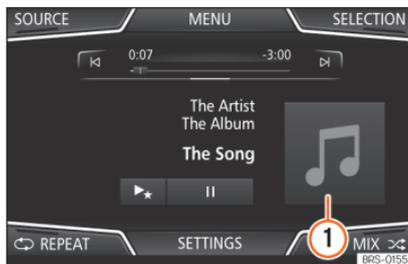
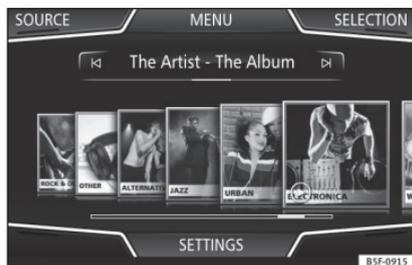

Fig. 171 MEDIA main menu.
Fig. 172 Selection by cover.
Clicking on the current cover »» Fig. 171 ① will display all of the album covers available in the active Media source »» Fig. 172.
• Press the **SELECT** function button on the **MEDIA** main menu »» Fig. 171 to open the track list. The track that is playing is highlighted »» Fig. 174.